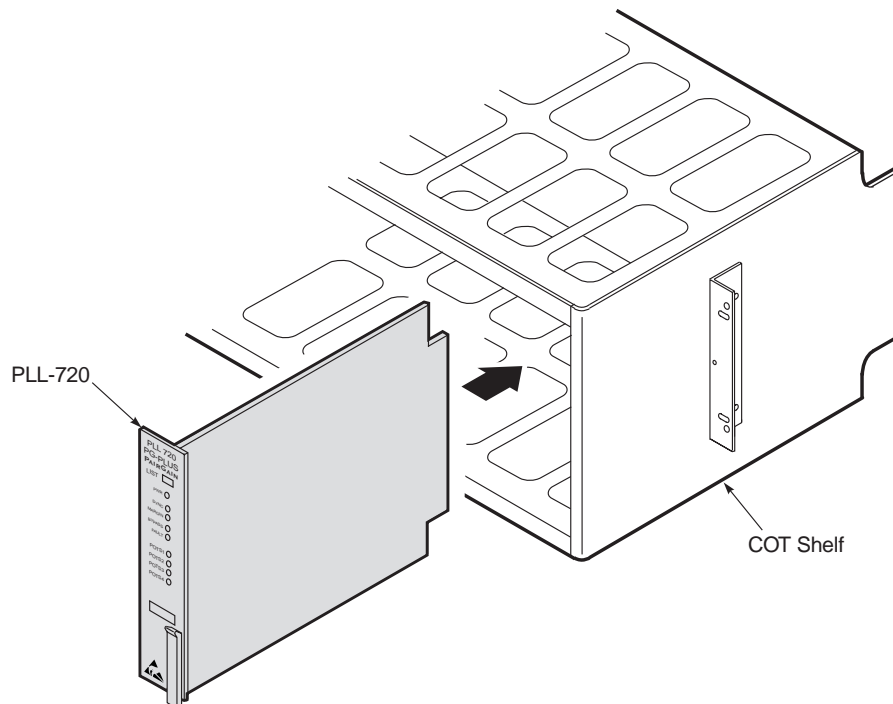

Figure 3. *Installing the COLU*
- 2 Insert the COLU into the card guides in a vacant slot in the COTS that corresponds to the location of the wiring from the CO switch (see Figure 3).